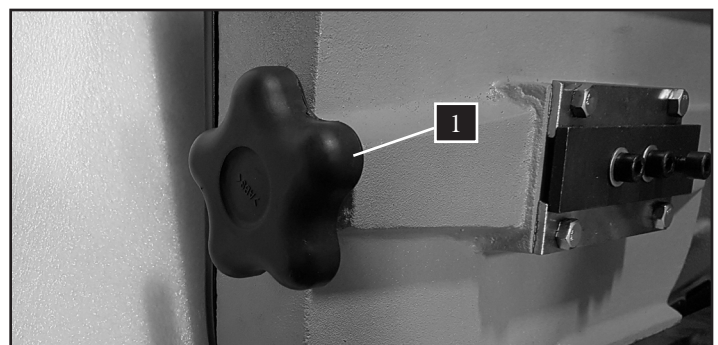

Fig. 33
4. Place a fish-type scale under the blade tension handle (Fig. 33 - 1) and lift the saw arm. The scale should indicate approximately 11 - 13 lbs.